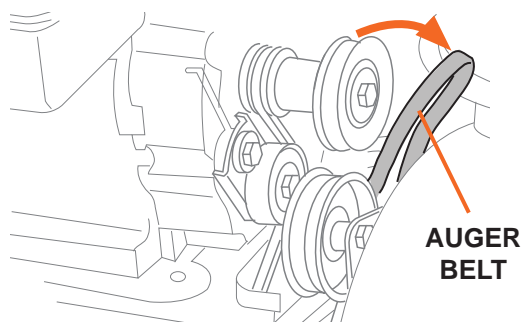

Figure 19
3. Roll the auger belt off the engine pulley (see Figure 19).